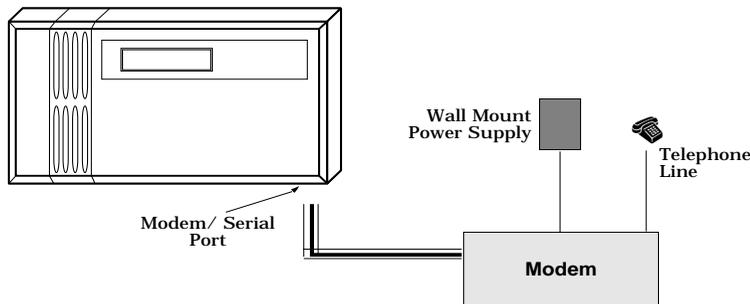

Figure 2.12 • Connecting a Modem
1. **Connect the Modem and the System Controller Unit**—First, plug your modem cable into the modem/serial port of the System Controller unit. Then connect the other end of the modem cable into the 25-pin connector on the back of the modem, as illustrated in Figure 2.12.
2. **Power up the Modem**—RK2 modems are powered by a small wall-mount transformer, as shown in Figure 2.12. Plug the end of the cable from the power transformer into the front of the modem. Then plug the modem wall transformer into a wall receptacle or, preferably, into a surge suppressor powerstrip.